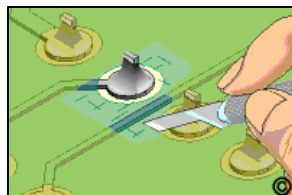

Figure 1: Scrape away damaged or unwanted coating with a Knife, Pick, or Scraper.
2. Using a Knife or Scraper carefully scrape from side to side until the desired material is removed. (See Figure 1).